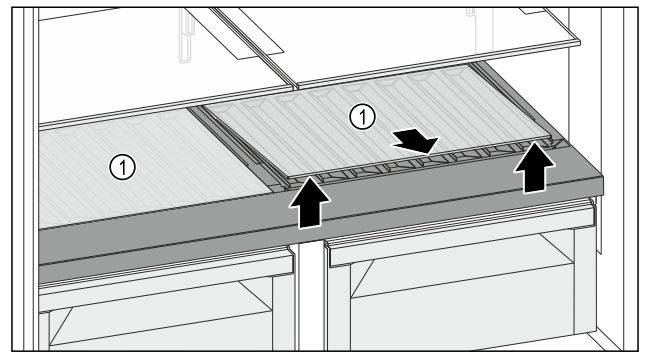

Fig. 122
- Lift one or both glass shelves Fig. 122 (1) at the front and remove.
- Store the glass shelf(shelves) Fig. 122 (1) in a secure place outside the appliance.